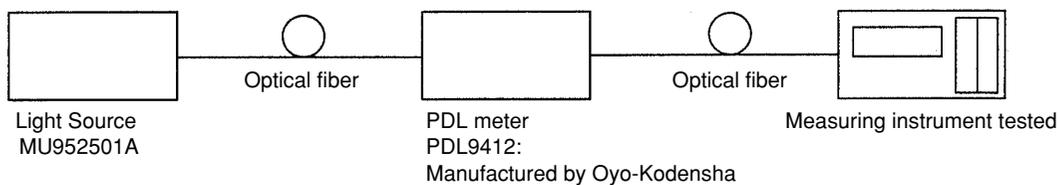

Fig. 5-2
1. Set up a measurement system like that shown in Fig. 5-2.